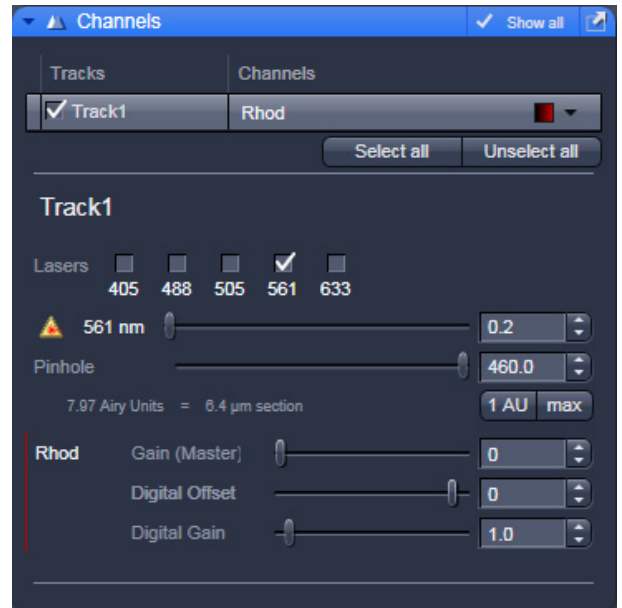

Fig. 101 Channels tool
- Activate the **Channels** tool (Fig. 101).